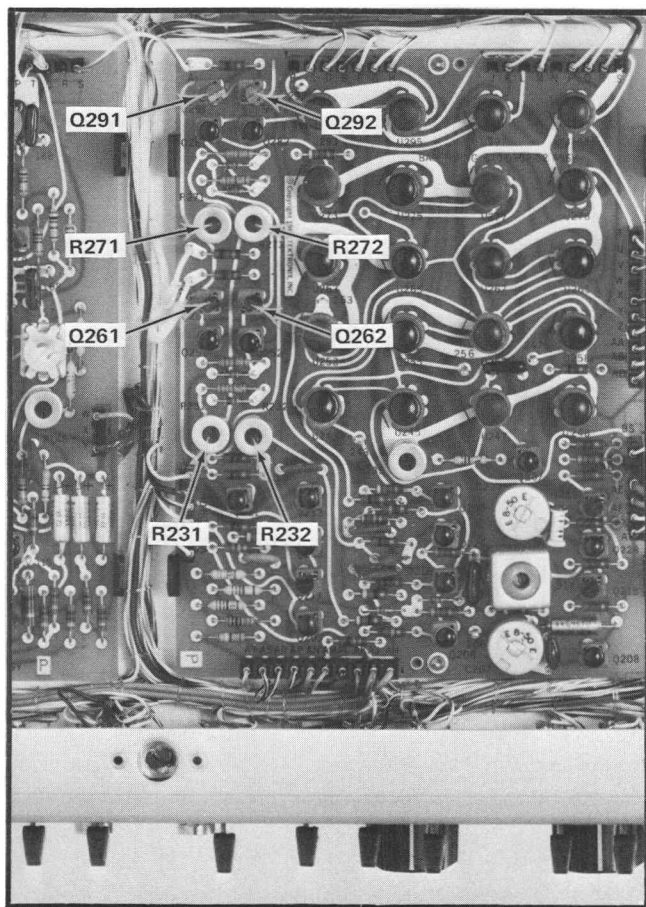

Fig. 6-12. Bar Timing board transistor and adjustment locations.
a. Set the 146 R—Y, B—Y, Y, and SETUP switches down. Set the FIELD DISPLAY switch to EIA COLOR BARS. Remove Q262; see Fig. 6-12.